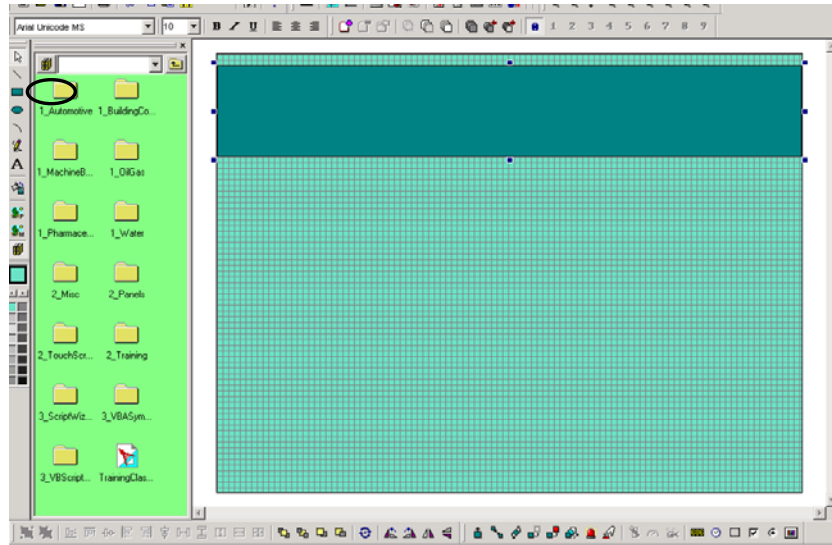

Figure 5.10
1. We will start by putting a rectangle close to the top of the display so that it looks like **Figure 5.10**. To create a rectangle you can either use the  button on the **Draw** toolbar, or go to select **Rectangle/Square** from the **Draw** menu. Once the rectangle has been created, right-click and select **Fill Color**. A color palate will appear from which you can select a dark shade of green.